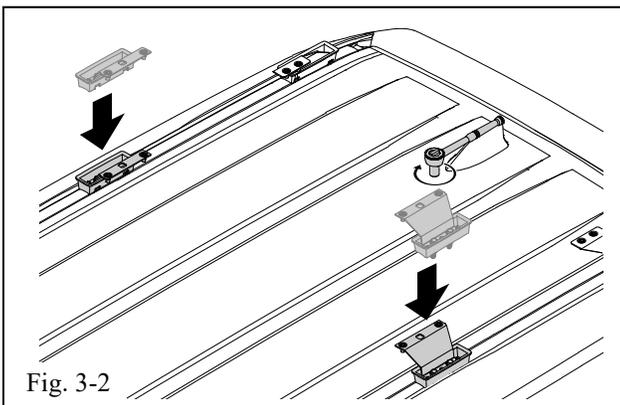

Fig. 3-2
- c) Place the center stanchion assembly on the center mounting point of the roof and tighten the bolts to 17 Nm or (13 ft-lb) (Fig 3-2).
(d) Place the front stanchion assembly on the front mounting point of the roof and tighten the bolts to 17 Nm or 13 ft-lb (Fig. 3-2).